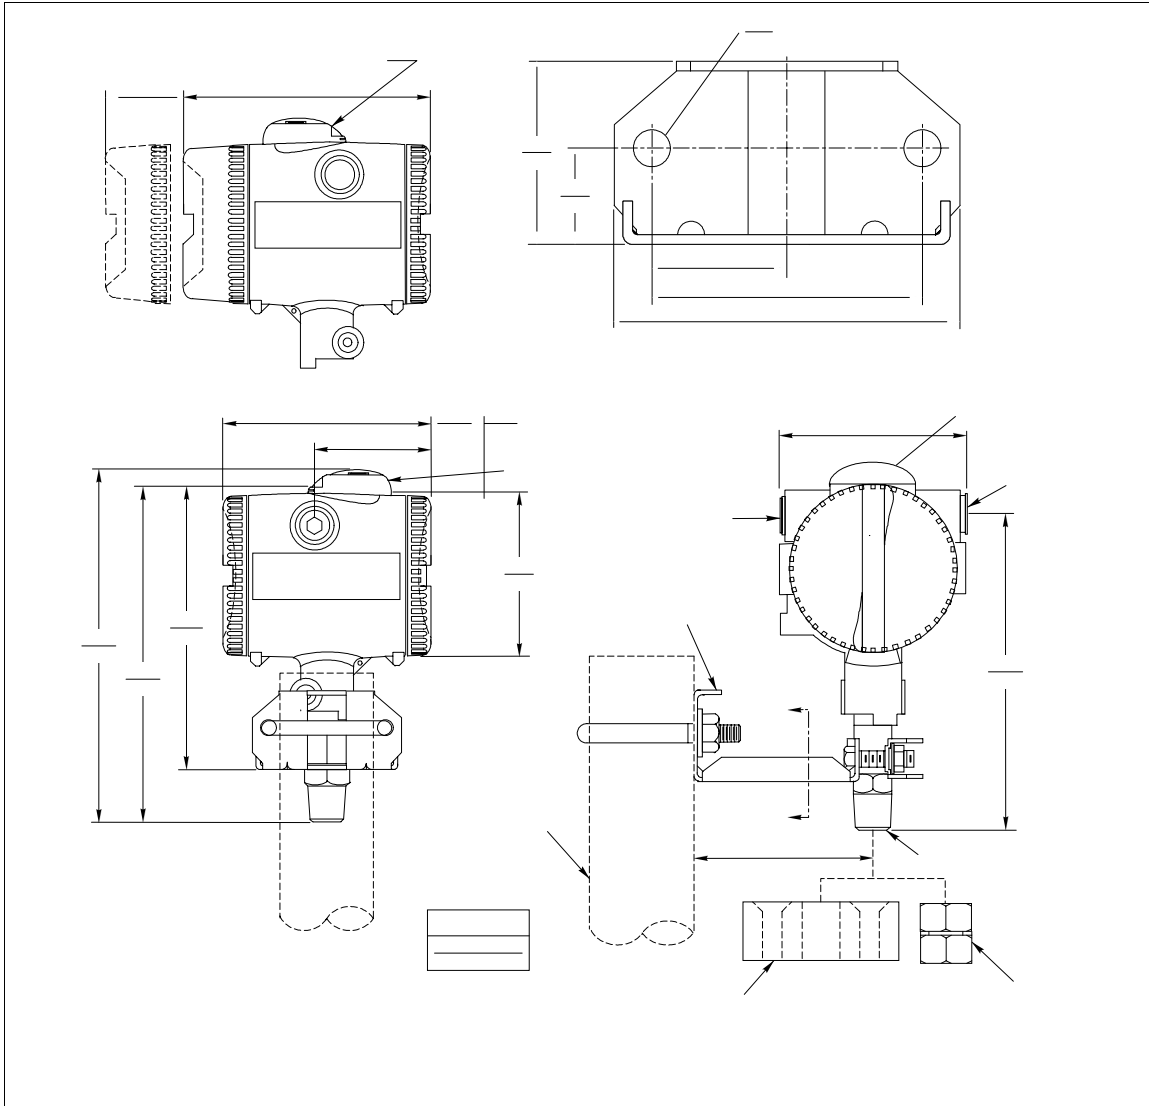

Figure 3-1. External and Mounting Dimensions
When mounting the unit, be sure to leave ample clearance to open the cover of the electronics (Fig. 3-1). Wire the transmitter with twisted, shielded pairs for best results. Avoid sources of RFI (radio frequency interference).
Since the transmitter weighs only 1.3 kilograms (2.9 pounds), and the end of the measuring cell is 1/2-NPT male threaded, direct connection to the process is possible. Figure 3-1 shows the external and mounting dimensions. There is an optional 1/2-NPT female process adapter available when required. Refer to Tables 1-2 and 1-7 for more information on the process adapter.
1-7 for more information on the mounting bracket. Figure 3-1 also shows this mounting scheme.
2. Position the EZ CAL option on the top of the transmitter as shown in Figure 3-1 and install the mounting screw.